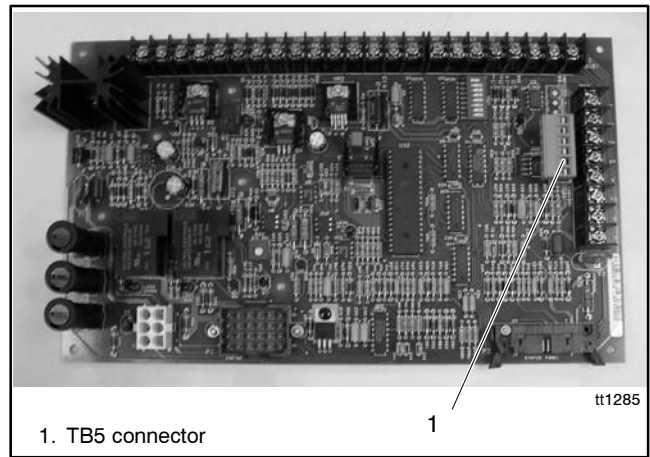
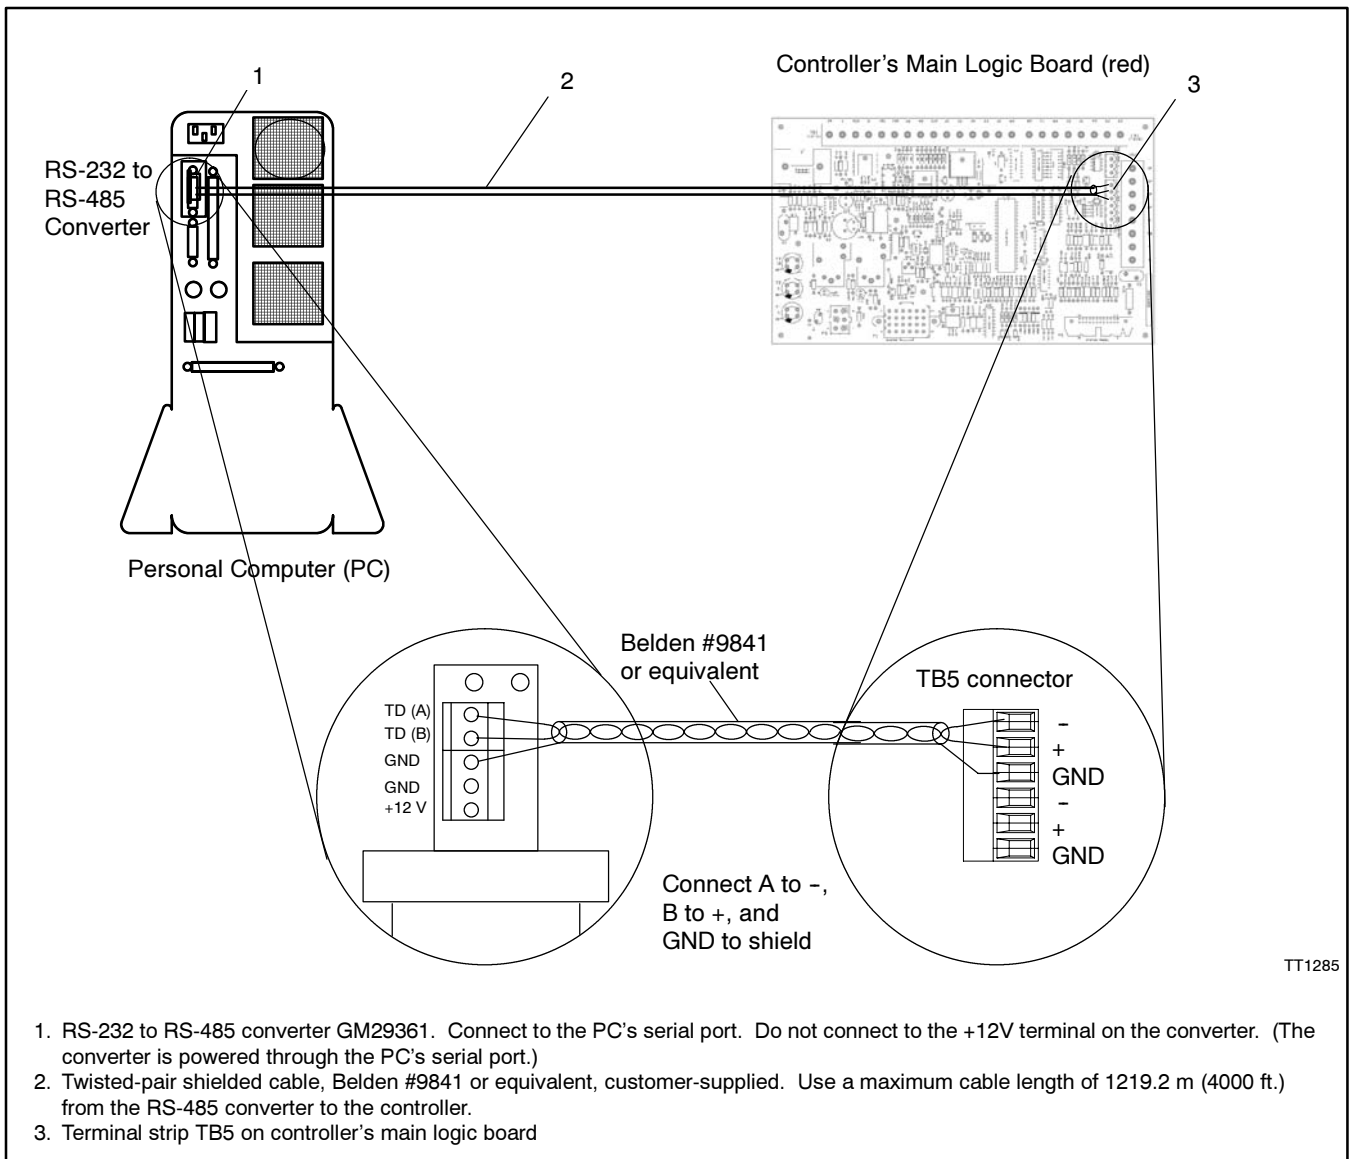

Figure 9 Controller Main Logic Board
Figure 10 16-Light Microprocessor Controller-to-Personal Computer Connection
5. Use shielded twisted-pair cable (Belden #9841 or equivalent) to connect the RS-232 to RS-485 converter to the TB5 connector on the controller's main logic board. See Figure 9 and Figure 10.